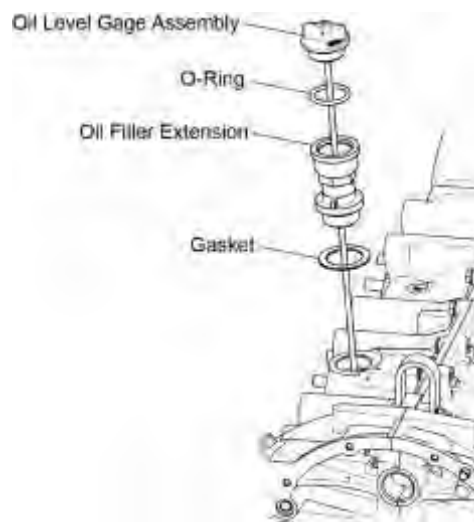

Figure 3
- B. Remove the oil level gage assembly from the oil filler extension (Figure 3).
- D. Carefully turn the oil filler extension (Figure 3) to remove the oil filler extension and gasket from the engine. Discard the gasket.
- A. Apply Food-Grade Anti-Seize to the threads of the top and bottom of the oil filler extension (Figure 3) and to the threads on the oil level gage assembly.